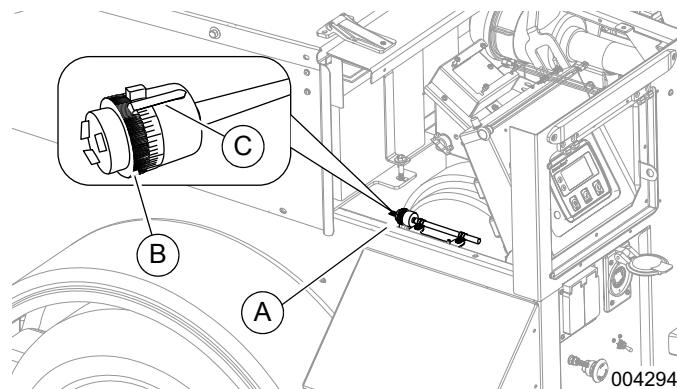

Figure 2-5. Keep Run Ambient Sensor
See Figure 2-5 The unit may be equipped with a “keep run” ambient sensor (A).